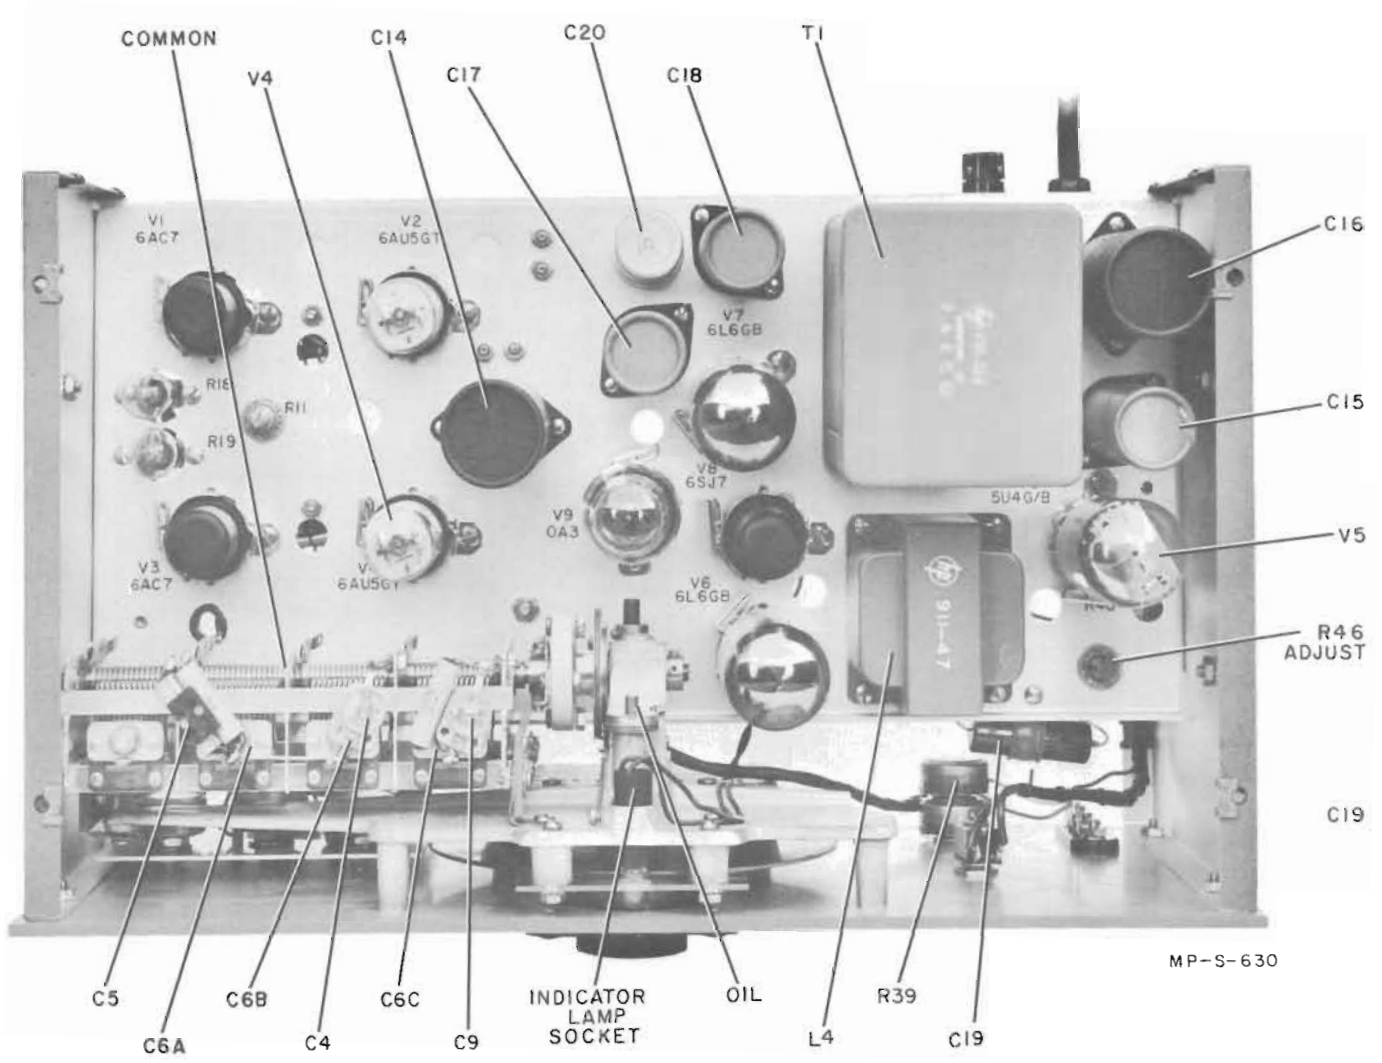

Figure 4-2. Top View Model 200T
2) Idler pulley bearing, one drop of light oil on pulley shaft. Idler pulley bearing is directly below indicator lamp socket (see Figure 4-2).